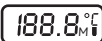
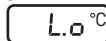

Fig.1
Fig.2
1. Press ON/OFF button that is next to the screen. You will hear sound signal; (Fig. 1) will be displayed, followed by the last measurement result. After the automatic test temperature result is displayed, the thermometer will be in measurement mode. Letter L with flashing °C or °F indicates readiness for measurement (Fig. 2/3).